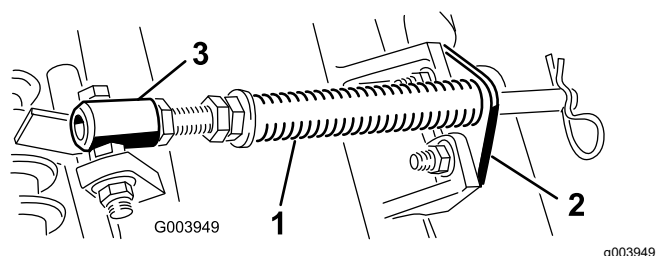

Figure 4
1. Remove the 2 carriage bolts and nuts securing the rod bracket to the cutting unit tabs (Figure 4).
2. Remove the flange nut securing the spring tube bolt to the carrier frame tab (Figure 4), and remove the assembly.
**Note:** Position the bolt head to the outer side of the tab as shown in Figure 4.